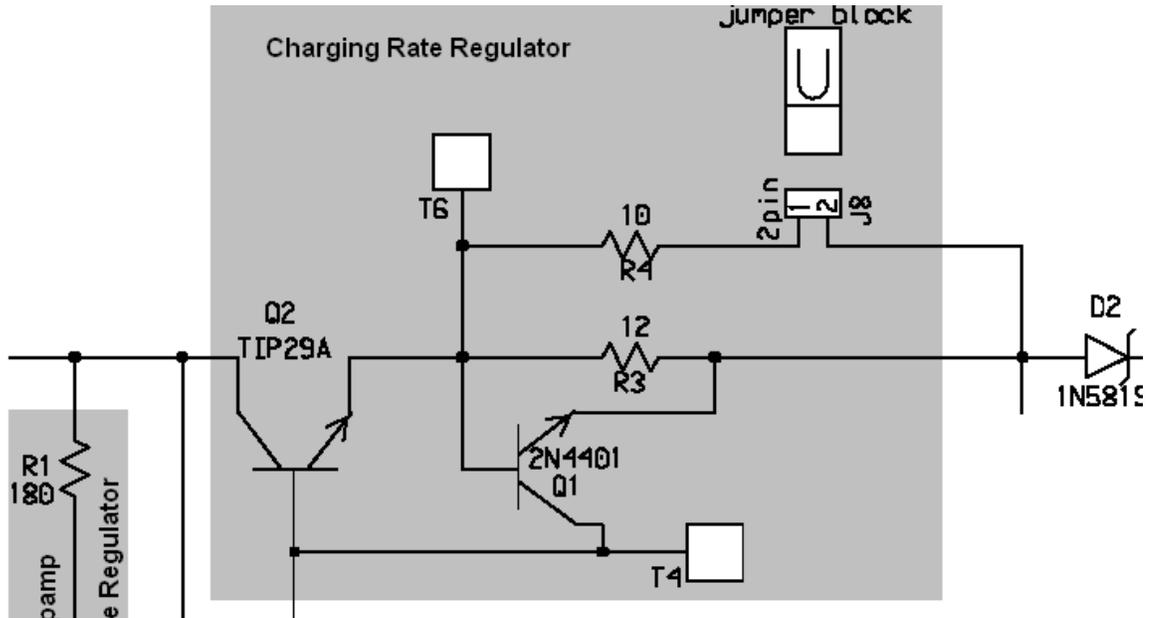

Figure 3.13: Charger Board Schematic
1. Consider the parallel-connected resistors, R3 and R4, on the charger board schematic, figure3.13. Determine the equivalent resistance, R_{eq} when the J8 jumper is in.